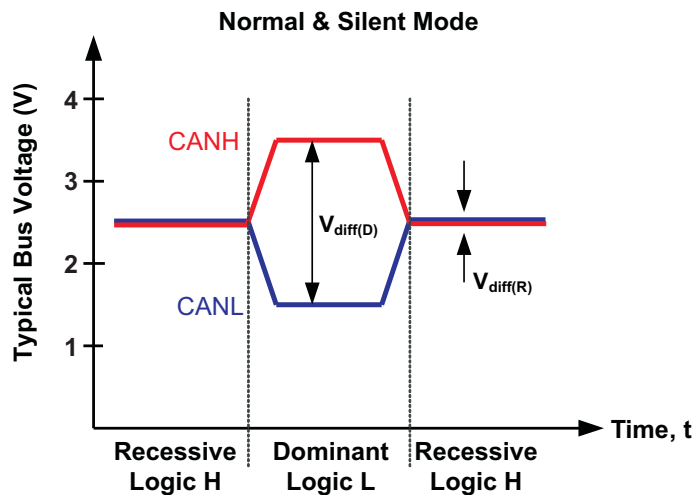
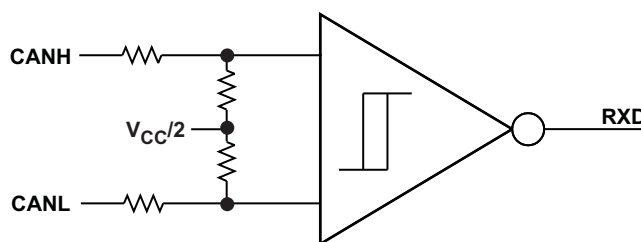

Figure 2. Bus States (Physical Bit Representation)
Figure 3. Simplified Recessive Common Mode Bias and Receiver
The CAN bus has two states during powered operation of the device: dominant and recessive. Dominant bus state is when the bus is driven differentially. Dominant bus state corresponds to logic low on the TXD and RXD pins. Recessive bus states is when the bus is biased to $V_{CC}/2$ via the high-ohmic internal input resistors R_{IN} of the receiver. Recessive bus state corresponds to logic high on the TXD and RXD pins. See Figure 2 and Figure 3.
- (1) H = high level, L = low level, X= irrelevant, Z = common mode (recessive) bias to $V_{CC} / 2$. See Figure 2 and Figure 3 for bus state and common mode bias information.
- (2) Devices have an internal pull down to GND on S pin. If S pin is open the pin will be pulled low and the device will be in normal mode.
- (3) Devices have an internal pull up to V_{CC} on TXD pin. If the TXD pin is open the pin will be pulled high and the transmitter will remain in recessive (non-driven) state.